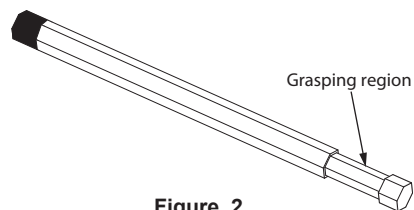

Figure 2
2. A region on the Cap is provided for stronger grasping as illustrated in Figure 2.